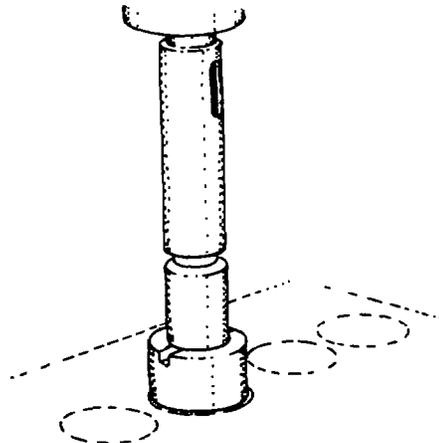

Fig. 34 — Cutting Counterbore
7. Cut the counterbore to a depth of 11.20 - 11.30 mm (0.441 - 0.445 in.) when measured from the cylinder head surface (see fig. 34).